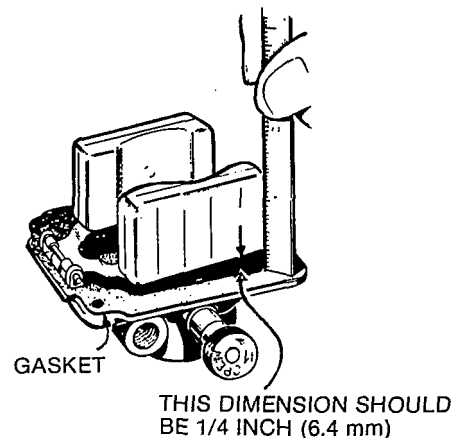

FIGURE 2. FLOAT LEVEL ADJUSTMENT
3. With the carburetor casting inverted and the float resting lightly against the needle and seat, there should be 1/4-inch (6.4-mm) clearance between the bowl cover gasket and the free end of the float (side opposite needle and seat). See Figure 2.